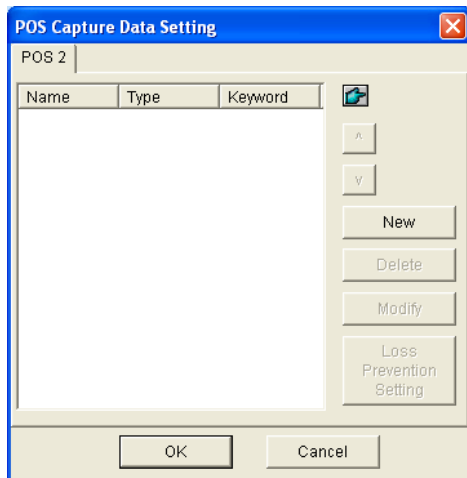

Figure 7-10 POS Capture Data Setting
2. In the POS Capture Data Setting dialog box (Figure 7-10), click the **Loss Prevention Setting** button. This dialog box appears.